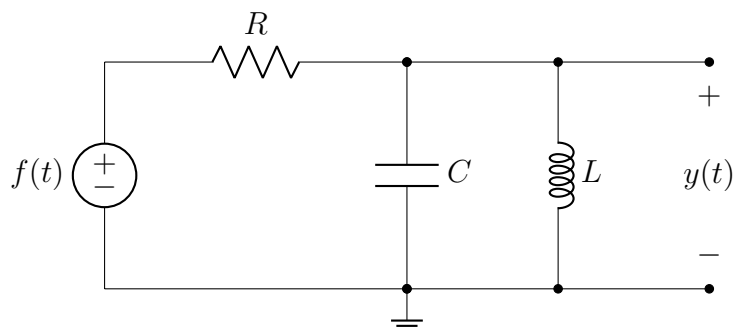

Figure 5.2: Series/parallel resonant circuit
Find the ODE governing the circuit in Figure 5.2. From the ODE, derive the transfer function  $H(s)$  from this ODE.
Just to verify your result, write a function in your `periodic_input.py` called `H(s, R, L, C)` that computes the transfer function  $H(s)$  for the circuit in Fig. 5.2. The function definition should look like this:
Modify your `periodic_input.py` file to include a function called `y(t, omega_0, m, R, L, C)` that computes the output of the circuit in Fig. 5.2 to the square wave input. The function definition should look like this:
- What ODE governs the circuit in Fig. 5.2?
Connect the  $1\text{ k}\Omega$  resistor, the  $0.033\text{ }\mu\text{F}$  capacitor, and the  $1\text{ mH}$  inductor as shown in Figure 5.2. Connect the input to the function generator and attach a scope probe to the output. Configure the function generator to produce a  $20\text{ kHz}$  square wave with a  $4\text{ V}$  amplitude. Record two periods of the input and output on the oscilloscope. You may need to adjust the time base and voltage scale to get a good view of the signals. Save the data and add the recorded data to your plot of  $f(t)$  and  $y(t)$ . Ideally, the recorded data for the circuit output should match your computed response  $y(t)$ .